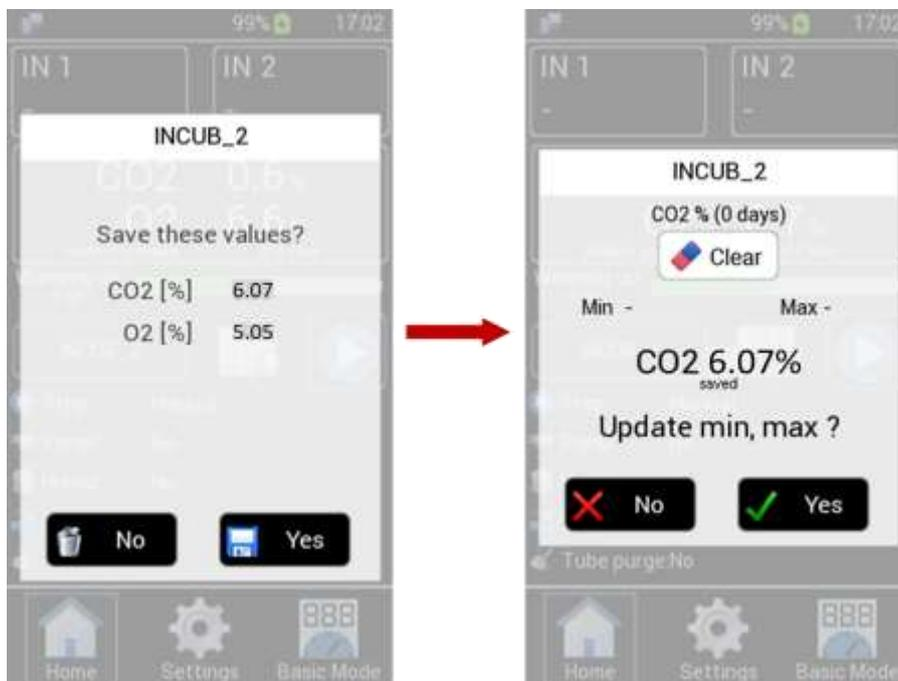

Figure 29. Saving the measurement and Updating Min, Max message.
4. Once the measurement process comes to a stop LEO 2.0 will display the values and prompt you to save (Yes) or discard them (No).. On selecting '**yes**', the device will give a new prompt to update minimum and maximum values for CO2 values, as well as, Temperature values (if a T-Module is connected during the measurement) of the device being measured (Figure 29).
The min-max update prompt will appear the very first time that you measure a device. If a T-module is connected during the measurement, the prompt will appear for updating the min/max values of the temperature as well. After the first time, the prompt will appear only if the CO2 or Temperature measured value is out of the existing min-max limits. In this way, you can dynamically specify the accepted limits of measurement per incubator and eventually, keep track of incubator precision near the set points of CO2 and Temperature. The days of current limits history are indicated in brackets near the incubators name. Figure 29 shows the update prompt after the initial measurement.